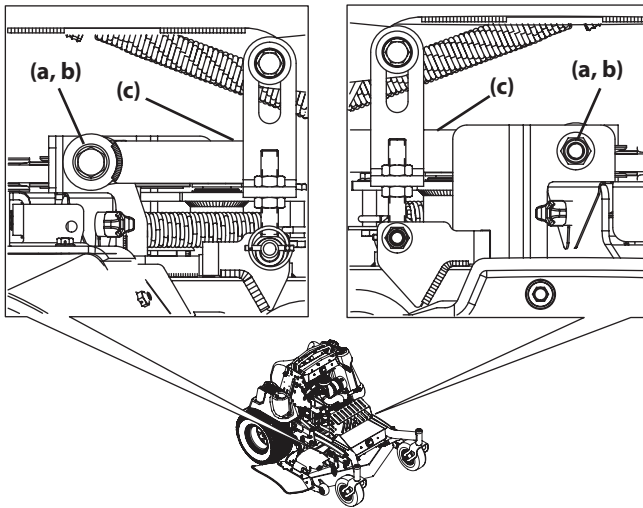

Figure 32
- Remove the hex screws (a) flange lock nuts (b) securing the front deck control rods (c) to the deck. See Figure 32.